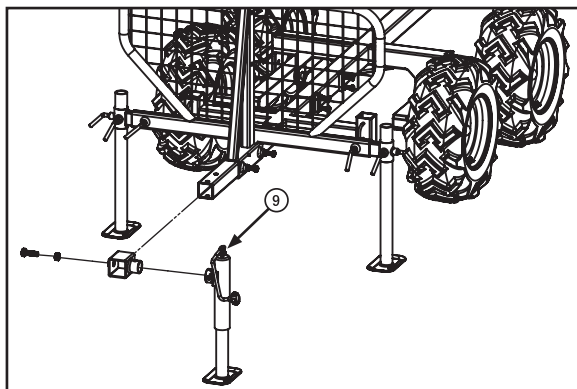

Fig. 14
Step 14: Install the Leveling Jack. Insert the Leveling Jack (9) onto the Frame Extension Tube (17) so that the back face is about 1 in. (2.5 cm). Back off the lock nut on the M16x50mm bolt on the Leveling Jack, tighten the bolt, then lock the bolt in place using the lock nut (Fig. 14). Extend the Leveling Jack so the Main Frame is horizontal.